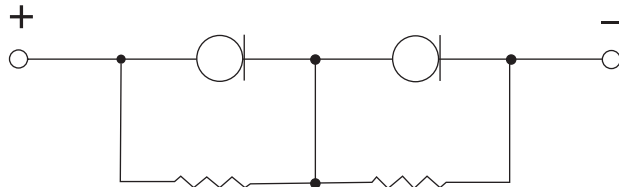

Figure 4. CLDs Connected in Series
**Series**—Higher voltages may be obtained by connecting identical CLDs in series (Figure 4). Voltage balancing resistors are recommended. Since the resistors shunt the output resistance, their values should be high.